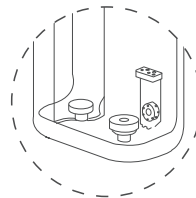

Figure 13
- (3) After cleaning, insert the floating ball into the groove. Then put on the floating ball silicone cover and filter screen covers tightly, as shown in the figure (**Figure 13**).